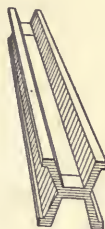

FIG. 3.—The standard meter.
11. The Standard Meter.—The standard unit of *length* in the metric system is the *meter*. It is the distance, at the temperature of melting ice, between two transverse parallel lines ruled on a bar of platinum (see Fig. 3), which